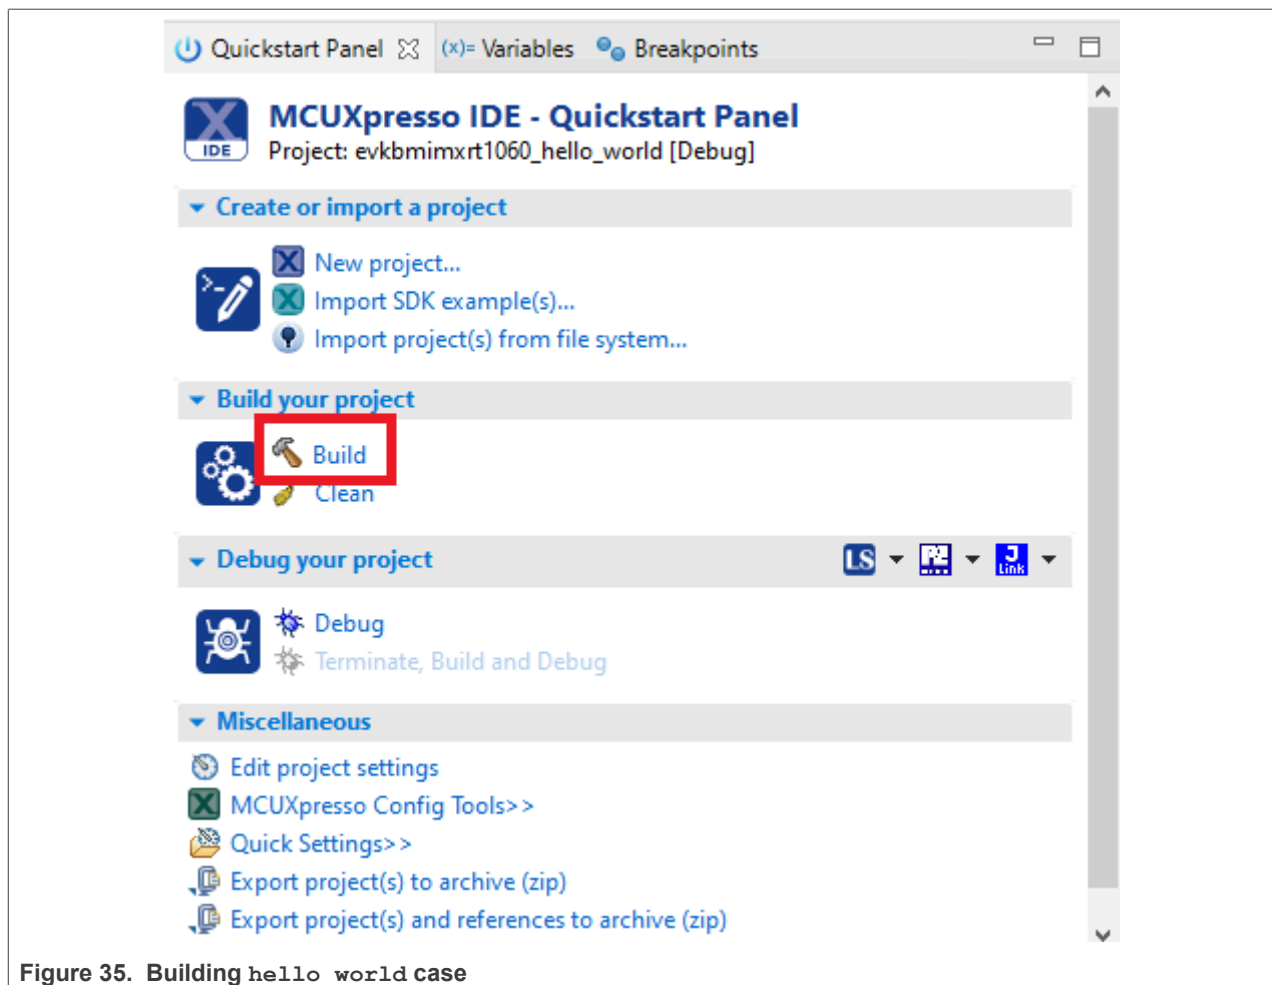

Figure 35. Building hello world case
- On the **Quickstart** panel, click **build evkbmimxrt1060_demo_apps_hello_world [Debug]**, as shown in Figure 35.